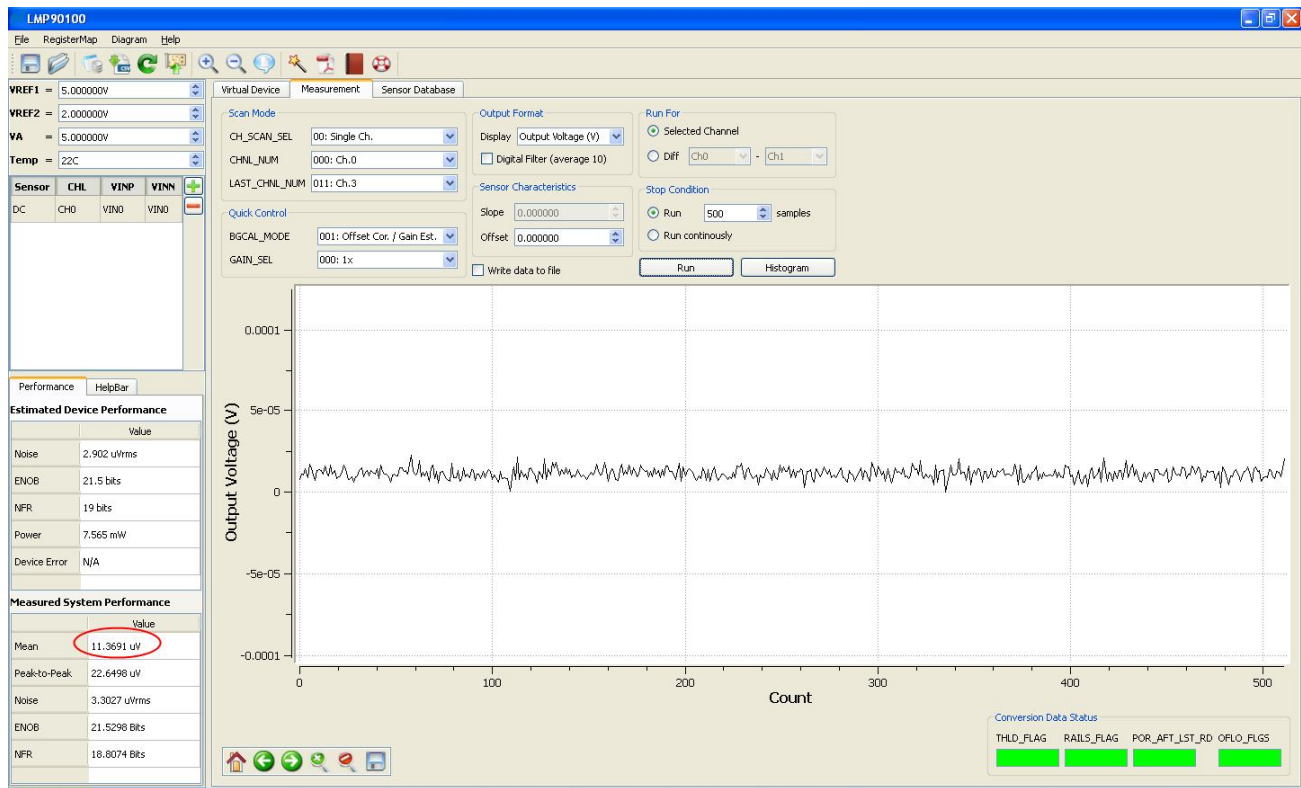

Figure 10 - Results for Shorted Input Test with Calibration
- b. Click on the “Run” button again to view the output voltage results. A mean output reading closer to 0V should be plotted similar to Figure 10. This decrease in the mean output reading demonstrates the LMP90100 offset calibration feature.